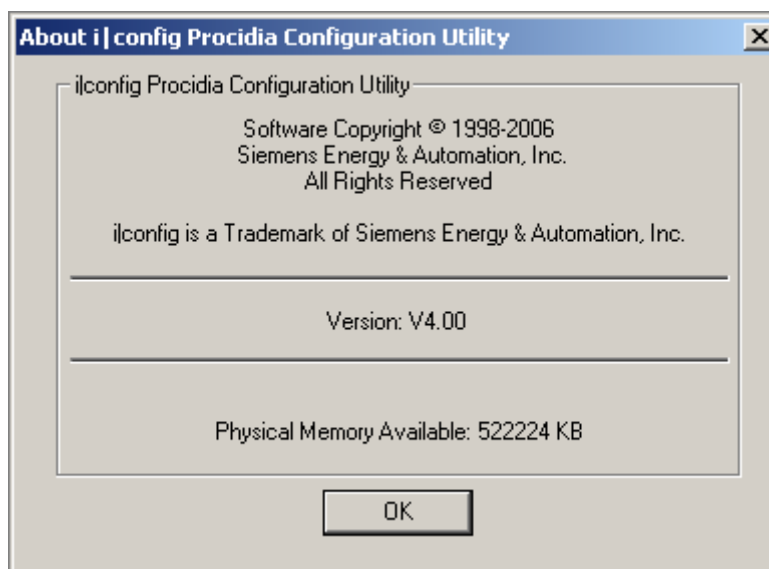

Figure 14-2 About ilconfig dialog
1. Select **Help > About ilconfig**. The About ilconfig dialog is displayed. See Figure 14-2.